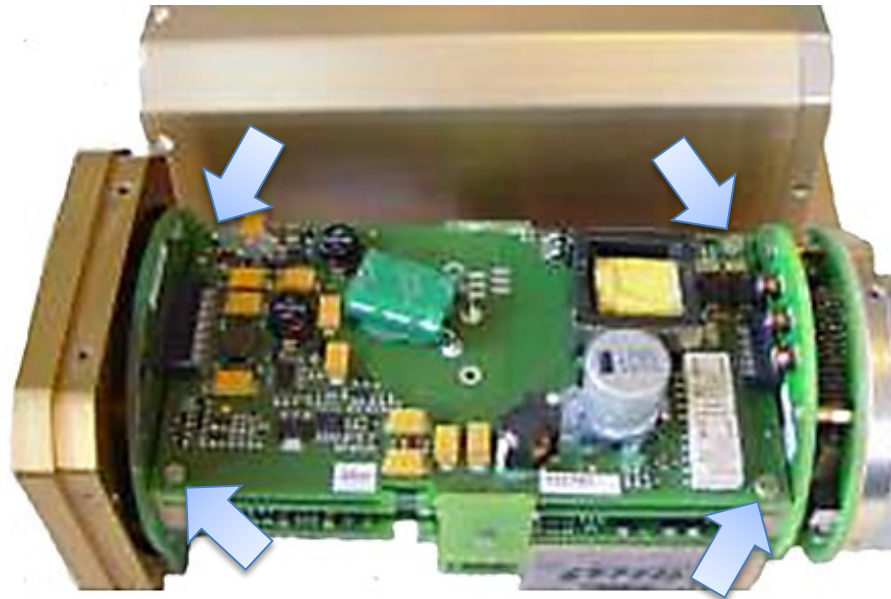

Figure 1 - AD32/AC32 Casing and PCB Attachment Screws
- (1) For the AC32 – remove the twelve screws and the casing (ref. CMM, ATA No. 34-16-30).
- (2) For the AD32 – remove the twelve screws, the two knobs and the casing (ref. CMM, ATA No. 34-16-10).
- (3) Remove and reinstall the four PCB attaching screws (one at a time) according to the following procedure (ref. Figure 1 and CMM):
- (4) For the AC32 – apply Loctite 243 on the threads of the twelve casing screws.
- (5) For the AD32 – apply Loctite 243 on the threads of the four rear casing screws.
- (6) Put the casing on the AD/AC32 and install the twelve screws.
- (7) Apply Enictol safety lacquer on the screws that are not painted black.